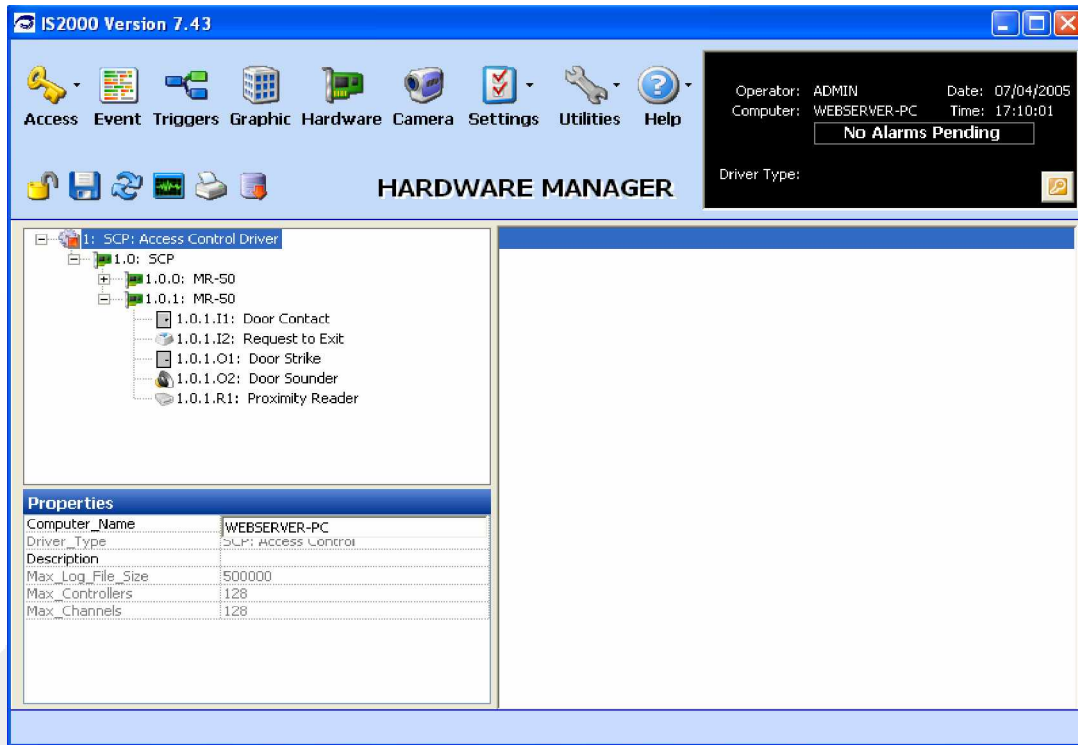

Figure 6 - My Computer Properties
5. Enter the “Computer Name” exactly as it appears in the Information Box, as shown in Figure 6.